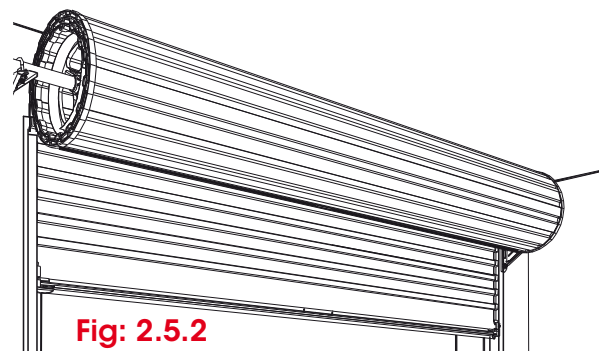

Fig: 2.5.2
- c) Pull the curtain down slowly into the guides below the head stop in **Fig 2.5.2**.